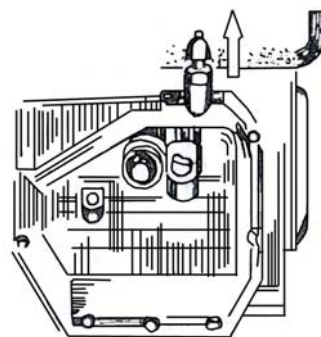

Fig .4 Indicator cap rising
(2) When checking ,do not make the oil dipstick enter into screw hole and keep the diesel engine in horizontal position.
(3) Check the lubricant flow in circulation. Hold the relief handle with left hand and slowly crank the starting until the cap of oil indicator rises (See Fig .4) . if it does not rise , it means there some faulty in lubricating system. Model CF185N or JM185N engine adopts a diaphragm oil-indicator, it means the pipeline works normally.